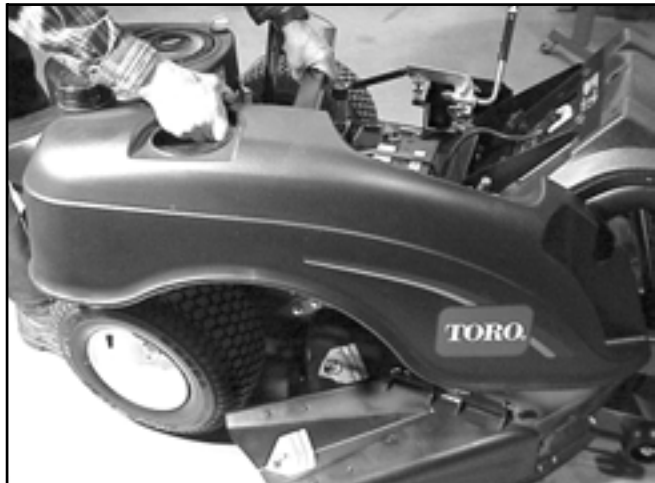

Figure 17
6. To ease removal of the side panel, remove the two bolts holding the right side motion control lever and remove the lever. Remove the right side panel cover, leaving the fuel tank in place (Figure 17).